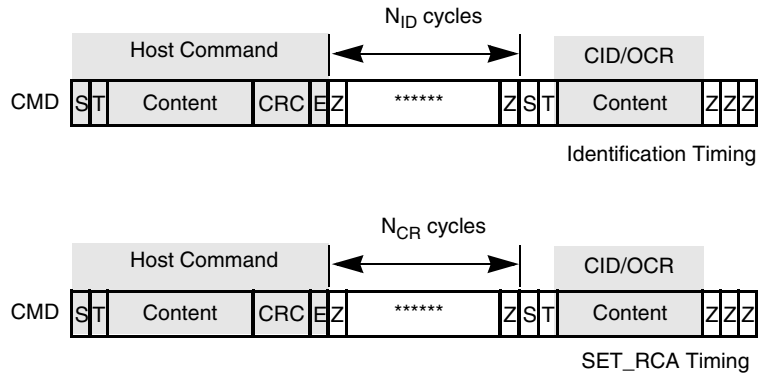

Figure 43. Timing Diagrams at Identification Mode
The card identification and card operation conditions timing are processed in open-drain mode. The card response to the host command starts after exactly  $N_{ID}$  clock cycles. For the card address assignment, SET\_RCA is also processed in the open-drain mode. The minimum delay between the host command and card response is NCR clock cycles as illustrated in Figure 43. The symbols for Figure 43 through Figure 47 are defined in Table 23.
Table 23. State Signal Parameters for Figure 43 through Figure 47
**Table 24. Timing Values for Figure 43 through Figure 47 (Continued)**